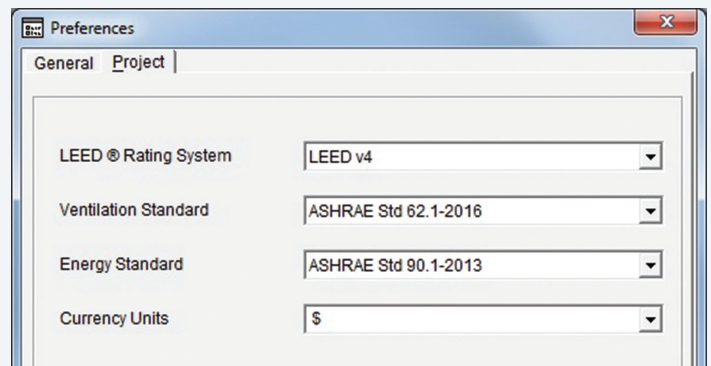

Figure 1. HAP 5.10 Project Preferences Settings Screen
- Addition of Project Preferences settings for LEED v4, ASHRAE 62.1-2016, and ASHRAE 90.1-2013, as shown in Figure 1